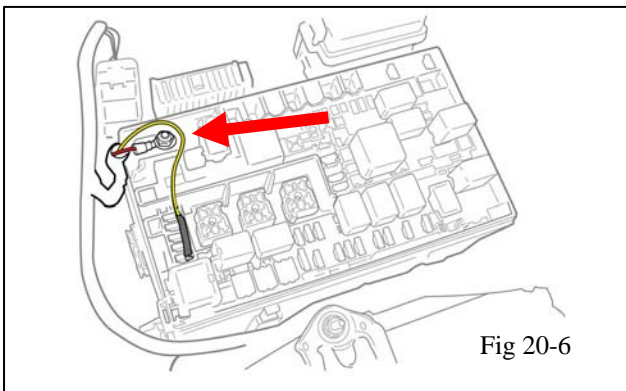

Fig 20-6
- (f) Remove the nut that is on the B (+) connection in the fuse panel (Fig 20-6) and connect red wire with the 6mm ring terminal from the intercooler relay to the B (+) terminal in the fuse panel (Fig 20-6).